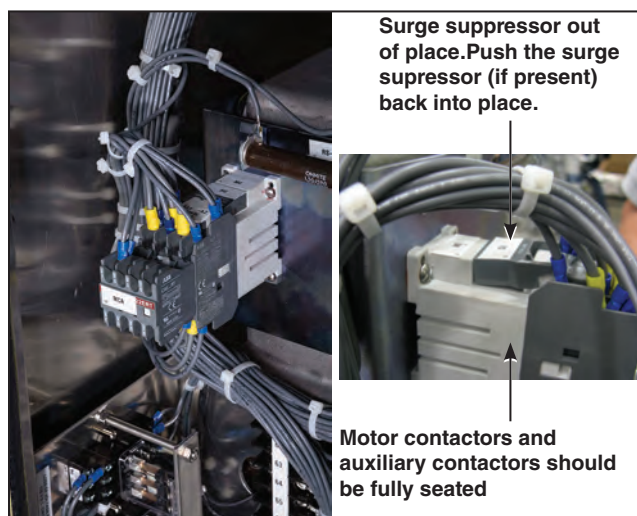

Figure 30. Check the motor contactor and the surge suppressor behind the operator side panel.
- To check the motor contactor and surge suppressor to ensure all electrical connections are secure, and that the surge suppressor is fully-seated in its mount (see Figure 30)